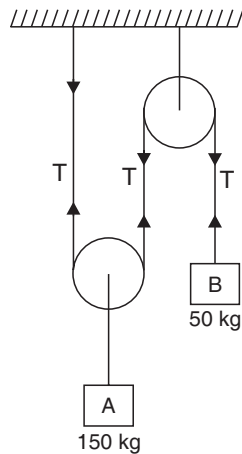

Fig. 8.21
13. A system of frictionless pulleys carries two masses hung by inextensible cords as shown in Fig. 8.21. Find the tension in the cords and acceleration of the weights. [Ans. 630 N,  $1.4 \text{ m/s}^2$  (mass A),  $2.8 \text{ m/s}^2$  (mass B)]